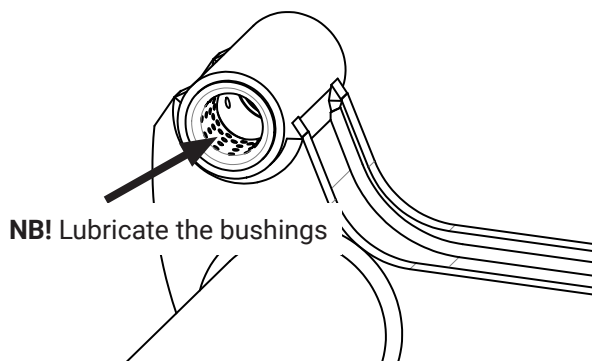

Figure 24. Take care to provide initial lubrication to the metal bushings
2. Lubricate the metal bushings on the upper bearing of the arms. Make sure the small holes on the inside of the bushings are filled with grease. See Figure 24.